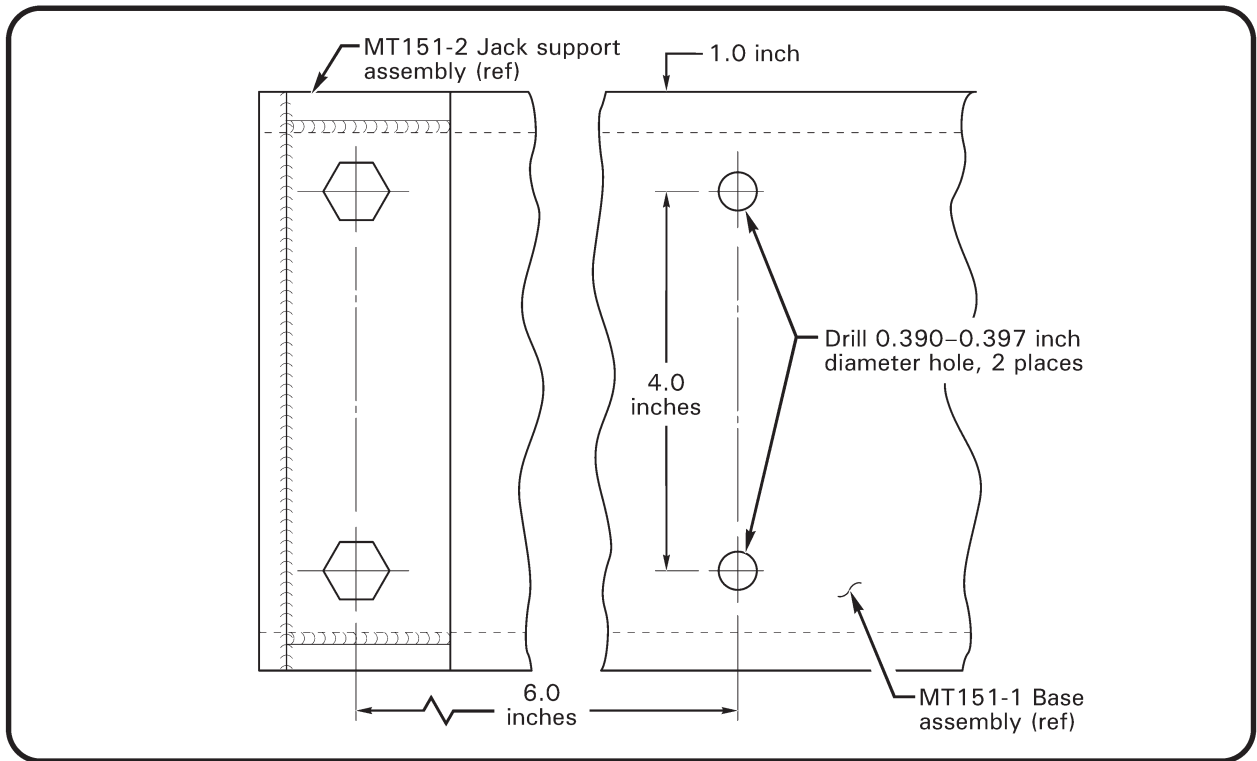

FIGURE 2 Locating MT151-2 Jack support assembly (with reference dimensions shown)
2. Refer to Figure 2. Layout & mark location of (2) 0.390–0.397 inch diameter holes.